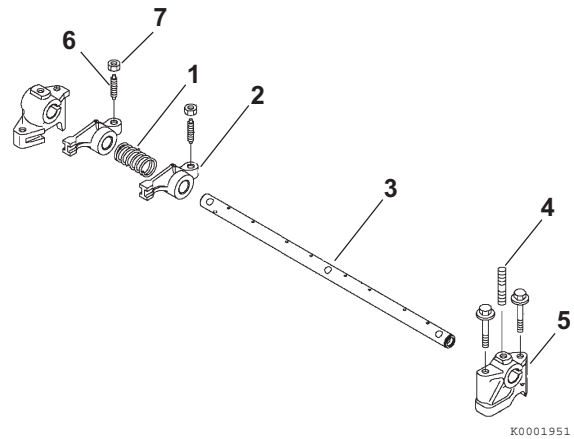

Figure 6-35
- Lubricate the rocker arm shaft. Slide the rocker arm supports (**Figure 6-35, (5)**), springs (**Figure 6-35, (1)**) and rocker arms (**Figure 6-35, (2)**) onto the shaft.
- To properly align the rocker arm shaft with the rocker arm shaft supports, first reinstall a rocker arm support (**Figure 6-35, (5)**) having a hole for the shaft alignment stud (**Figure 6-35, (4)**). Align the hole in the rocker arm shaft and the hole in the rocker arm support. Reinstall the alignment stud.
Note: **Figure 6-35** shows components for one cylinder. Components for all remaining cylinders are assembled in the same order.
- If removed, reinstall the valve adjusting screws (**Figure 6-35, (6)**) and lock the nuts (**Figure 6-35, (7)**).